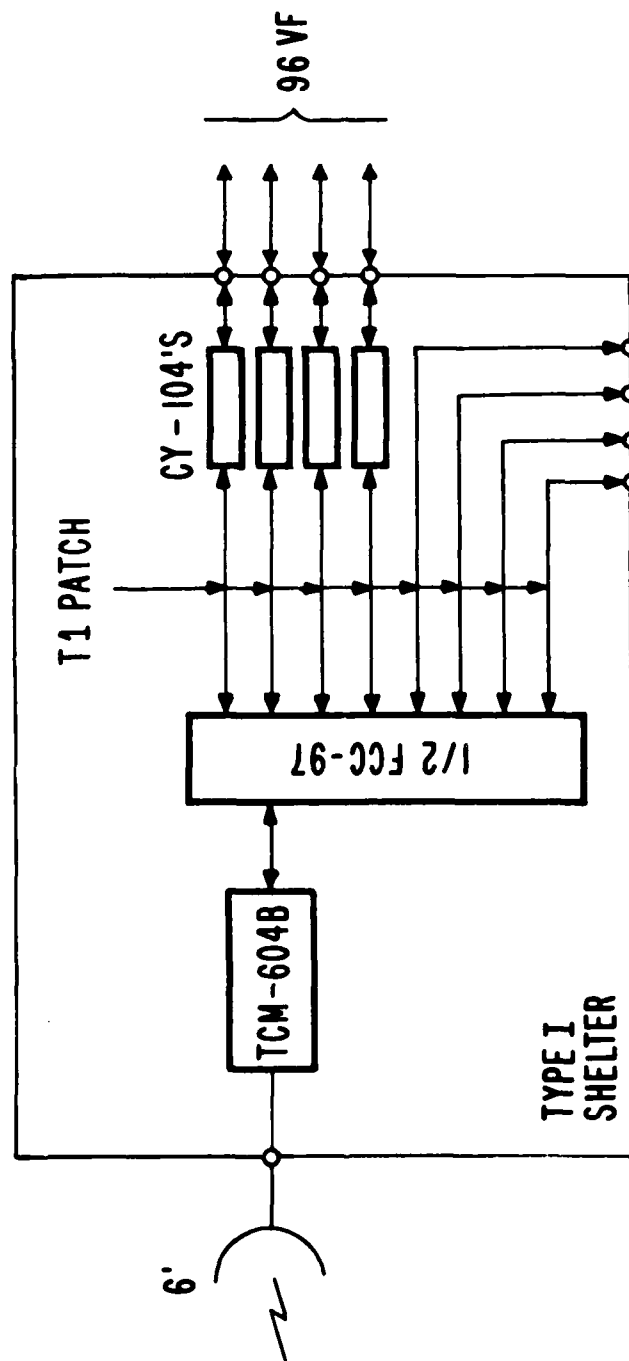

Figure 8. Terminal
(3) The ability to function as a terminal, with provisions for interfacing, on a 4-wire basis, with up to 96 VF circuits (Figure 8).